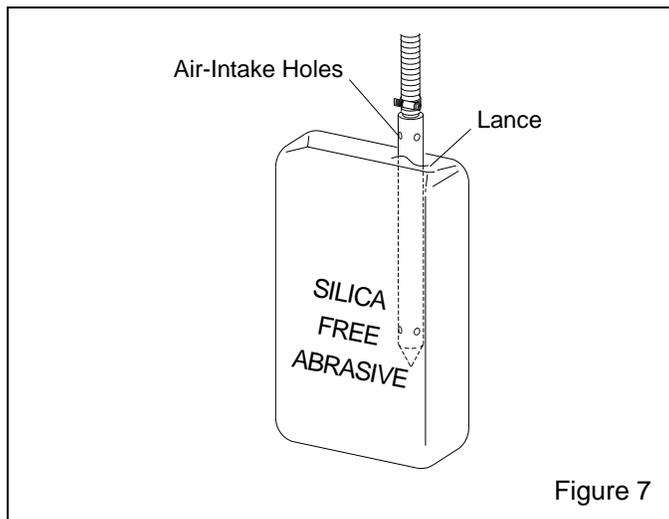

Figure 7
4.4 Insert Lance into Bagged Abrasive – Figure 7